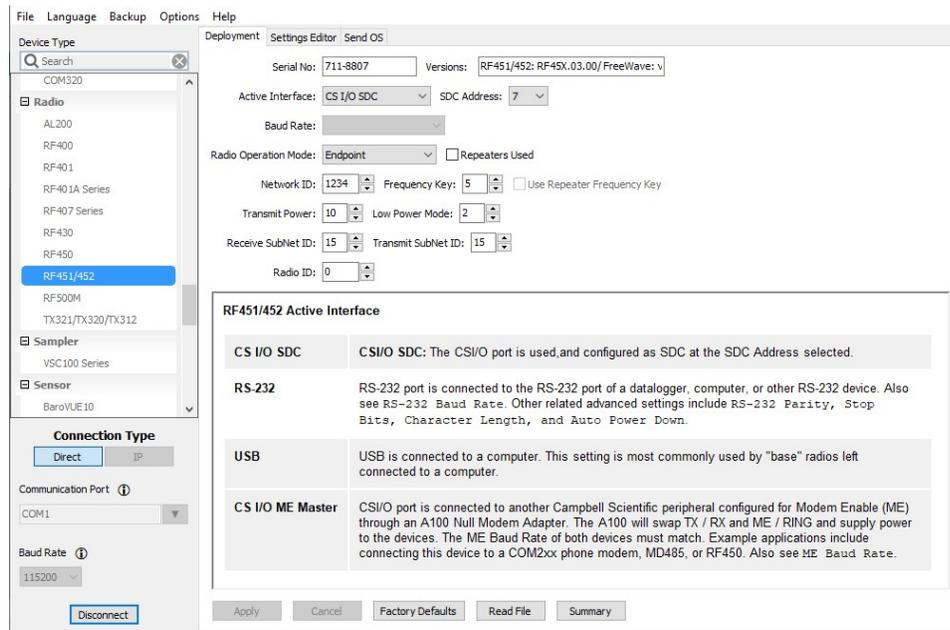

Figure 7-2. RF451/RF452 settings
6. Click **Connect**. The radio **Status** LED will turn yellow. After several seconds, a screen similar to Figure 7-2 (p. 9) will appear:
This section describes the RF451/RF452 **Deployment** tab settings shown in Figure 7-2 (p. 9).